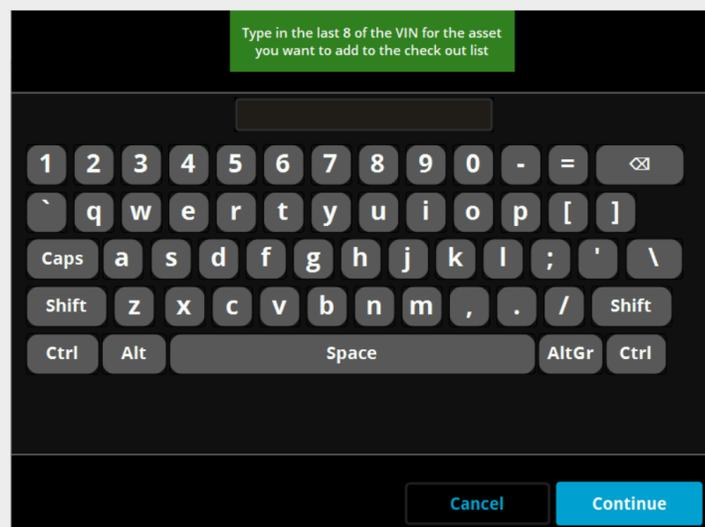

Fig. 55 – Check out by VIN keyboard screen
- 🔑 You are taken to a keyboard screen, shown in Fig. 55.